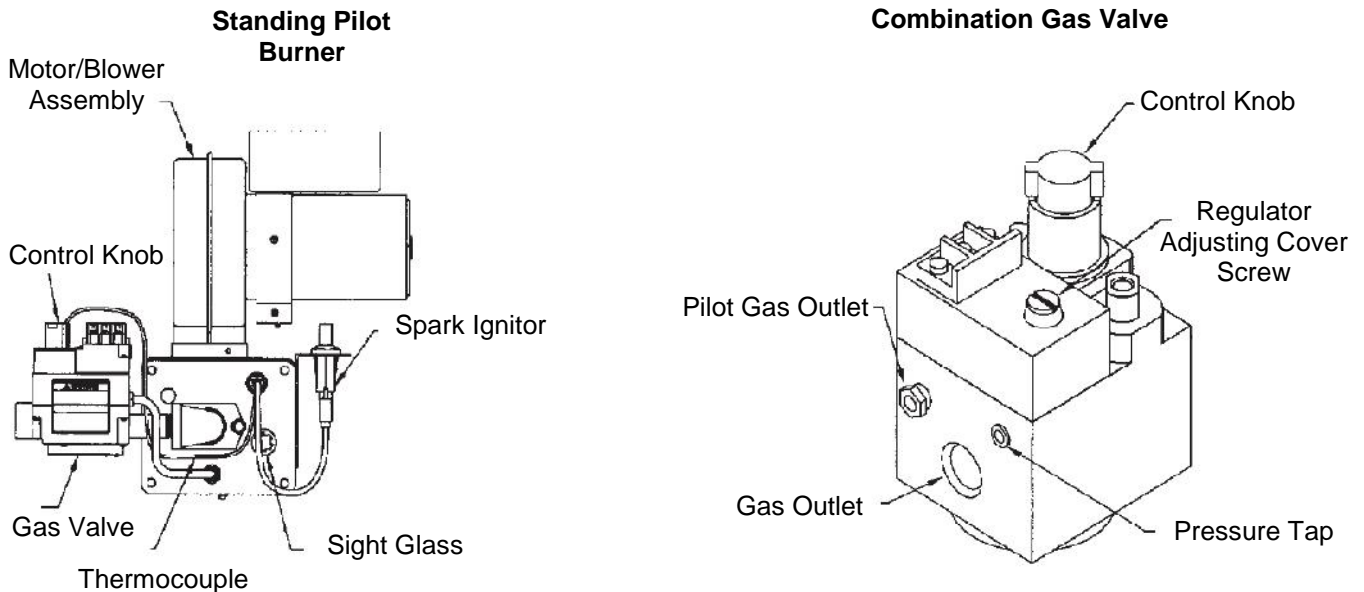

FIGURE 15
1. Depress the gas valve control knob on the combination gas valve and turn to "OFF" (See Figure 15).